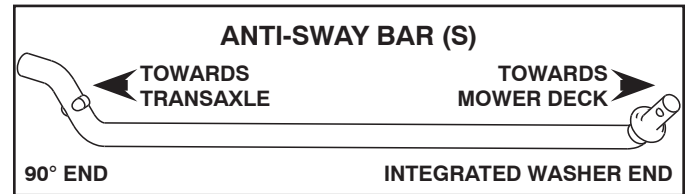

Fig. 8
5. INSTALL ANTI-SWAY BAR (S) (IF EQUIPPED) (See Fig. 8 - 11)